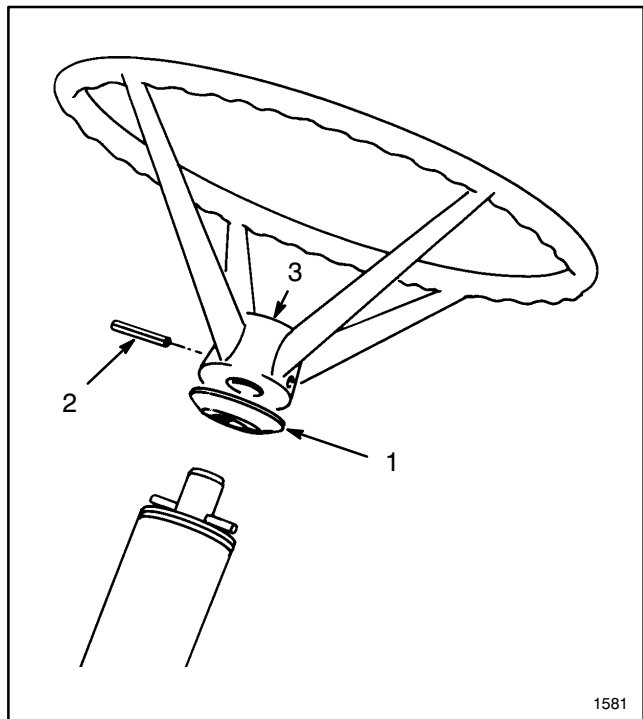

Figure 2
1. Slip spacer onto steering shaft until groove in spacer fits over roll pin in shaft (Fig. 2).
Note: Steering wheel insert (Fig. 2) should be readable from operator's position on rider with wheels turned straight ahead.